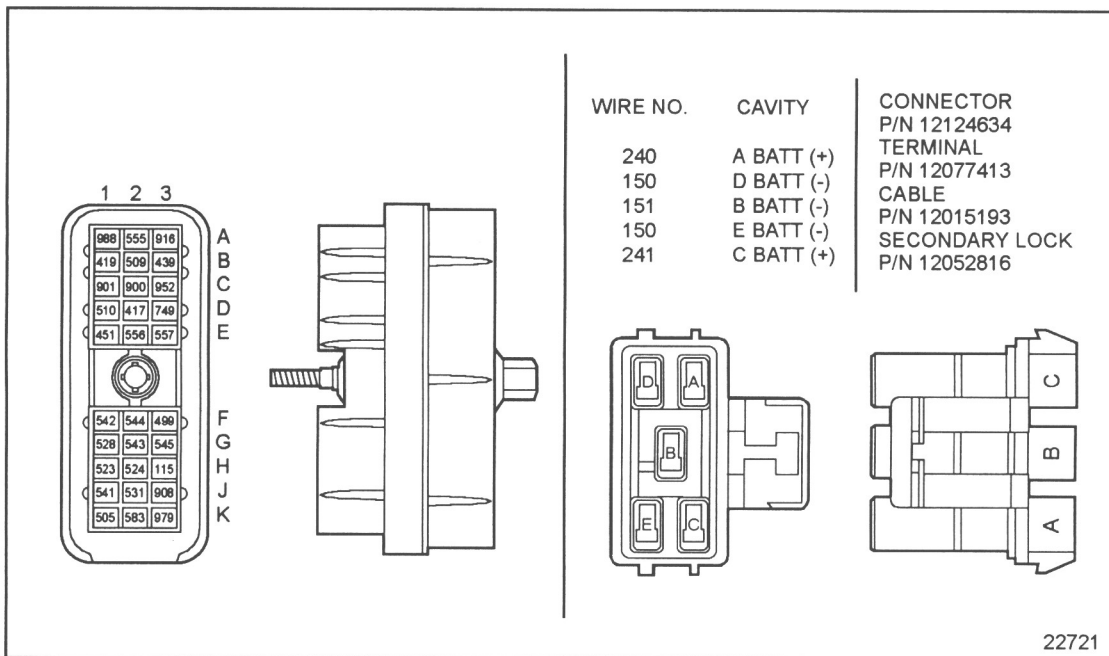

Figure 37-3 ECM Vehicle Interface Harness Connector
2. Disconnect the vehicle harness and 5-way power connectors at the ECM. See Figure 37-3.